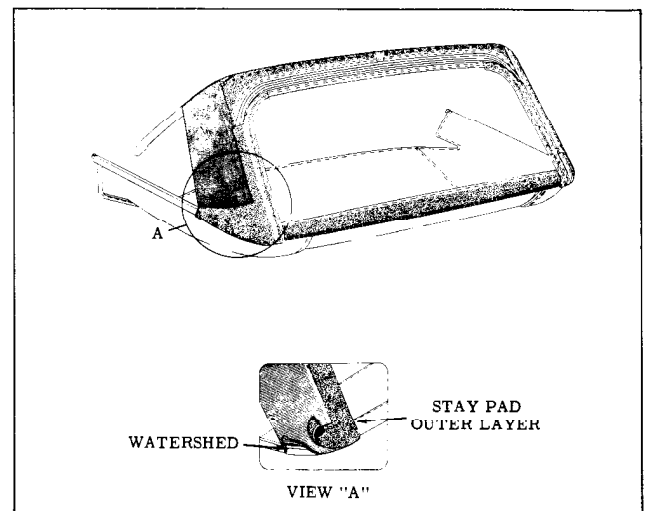

Fig. 17-131 Back Curtain Stay Pad Watershed
9. Check back curtain stay pad watershed for proper installation to rear trim stick. (Fig. 17-131) A new watershed may be made from a vinyl coated material. Place vinyl coated side of material against trim stick, then tack material in position. Bottom portion of watershed is wrapped upward and around lower edge of back stay pad inner flap. The stay
13. Wrap bottom portion of watershed upward around lower edge of stay pad inner flap. (Fig. 17-131); then tack stay pad outer layer (coated fabric) over watershed.